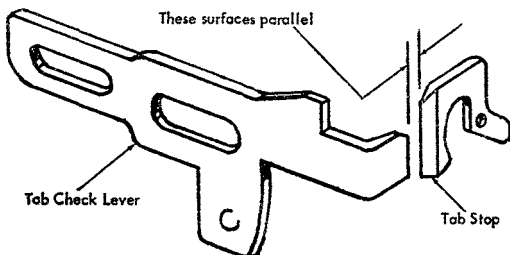

Figure 22. Tab Rack Adjustment, 4C
C. PARALLEL TO TAB CHECK LEVER. Position the tab rack about its axis so that the front face of a set tab stop is parallel to the tip of the tab-check lever (Figure 22).